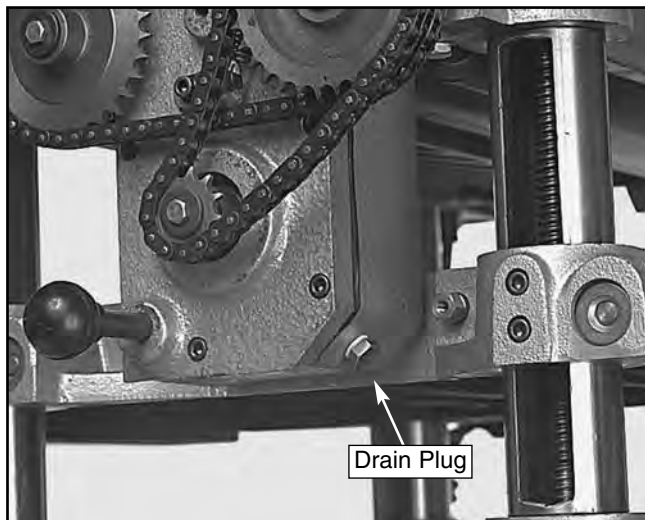

Figure 31. Location of gearbox drain plug.
4. Drain and replace the oil yearly. See **Figure 31**.